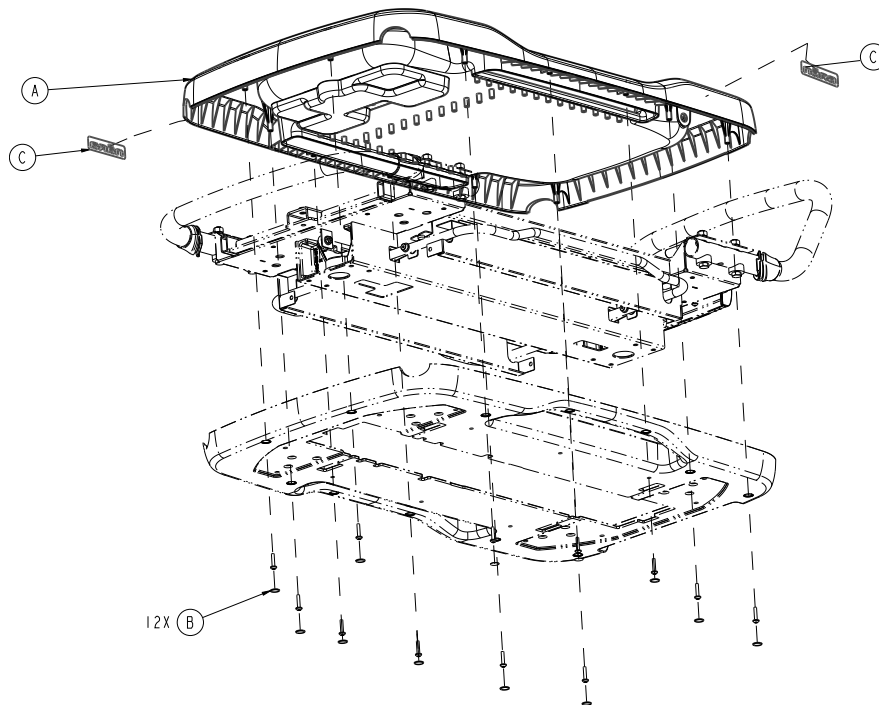

Figure 4 – Upper cradle - logo labels
Note - Affix the two supplied Nära logo labels (C) when you install the upper cradle (Figure 4).